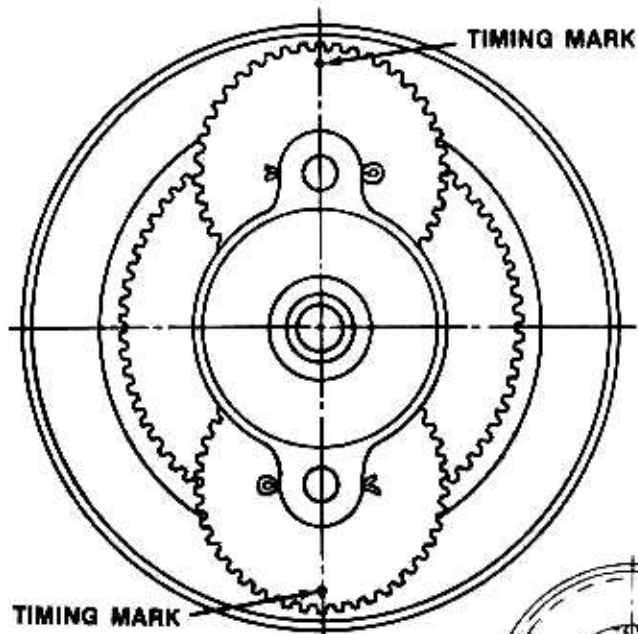

Fig. 1
- (A) Unscrew 4 screws on cover and remove cover.
- (B) Note the proper timing mark position of the two planet gears. See Figure 1 page 8.
- (C) Back-out the square head set screw to permit the pinion cage with the two planet gears to be pulled from the load shaft.
- (D) The two planet gears are removed by pulling the cotter pins and slipping the shafts from the gears.
Reassembling: Mount planet gears in pinion cage with cotter pins in place. Align set screw hole in pinion cage with the set screw hole in the drive shaft and time the planet gears as illustrated in Fig. 1 Page 8.